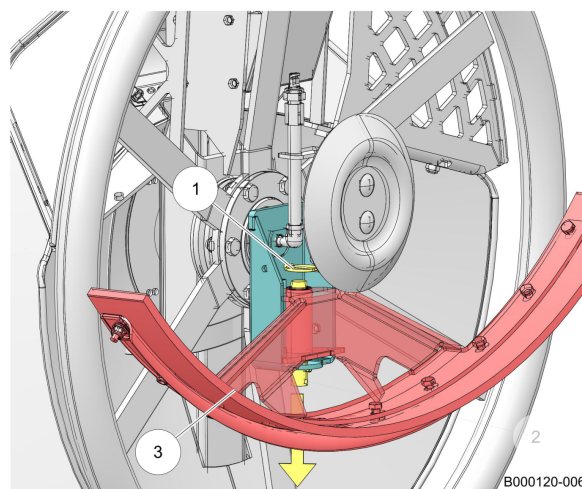
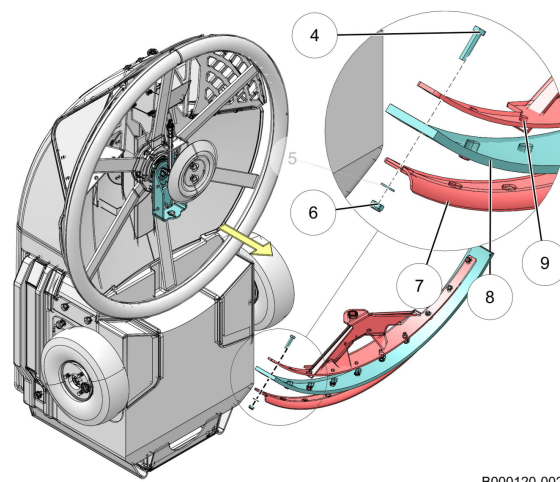

Figure 51. Remove the scraper assembly
Figure 52. Remove the scraper
1. Loosely install the new manure scraper (8) (see figure 52 on page 6-16) between the fixation plate (9) and the clamping strip (7) with the ten bolts, washers and nuts.
2. Put the fixation plate (9) with the manure scraper (8) on a flat surface.
3. Make sure the manure scraper (8) is installed equally divided between the fixation plate (9) and the clamping strip (7).
4. Tighten all nuts (6). Tighten the nuts at the far ends of the manure scraper a little less to prevent the manure scraper from tearing.
5. Put the scraper assembly (3) with the pin (1) (see figure 51 on page 6-16) and locking pin on the machine.